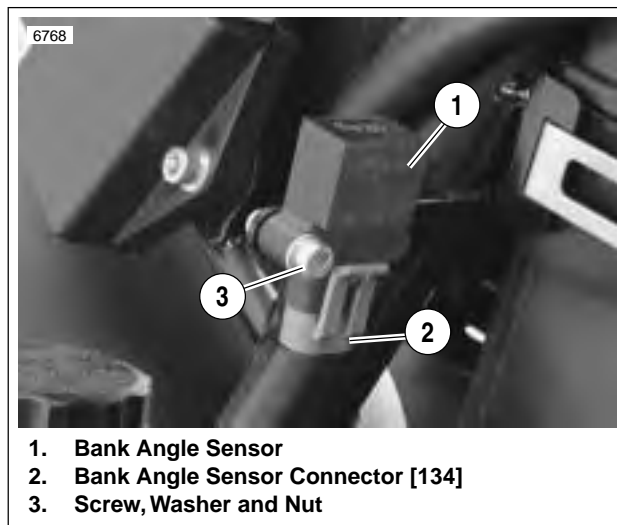

Figure 4-76. Bank Angle Sensor
2. See Figure 4-76. Locate bank angle sensor (1) on right side between ECM and battery. Unplug sensor connector (2) [134].
3. Remove screw, washer and nut (3) to detach sensor from frame.
1. See Figure 4-76. Plug connector (2) [134] into bank angle sensor.
2. Attach bank angle sensor to frame using screw, washer and nut (3). Make sure location post on sensor engages hole in mounting tab.